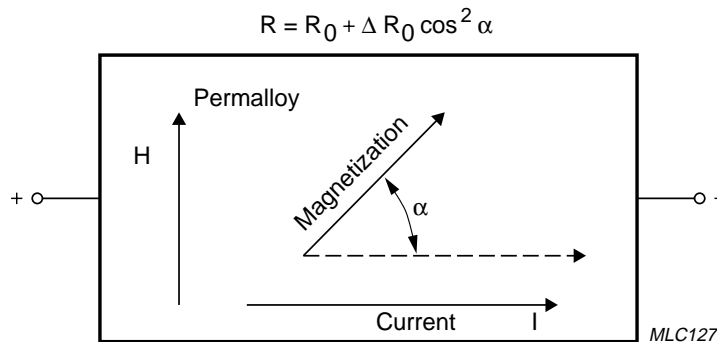

Fig. 1: The magnetization effect in permalloy
The property of a current-carrying magnetic material (e.g. permalloy: 20% Fe, 80% Ni) to change its resistivity in the presence of an external magnetic field  $H$  is called magnetoresistive (MR) effect [i]. When no external magnetic field  $H$  is present, the permalloy has an internal magnetization vector parallel to the current flow. If an external field  $H$  is applied, the internal magnetization vector will rotate around an angle  $\alpha$ . As a result, the resistance  $R$  of the permalloy will change ( $\rightarrow \Delta R_0 =$  approximately 1 - 2% of  $R_0$ ) as a function of the rotating angle  $\alpha$  (formula, Fig. 1).